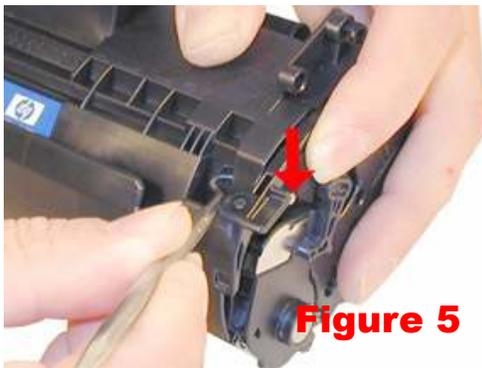

Figure 5
3. Push the pins out with a modified Allen wrench, or a modified spring hook. See Figures 5 & 6.